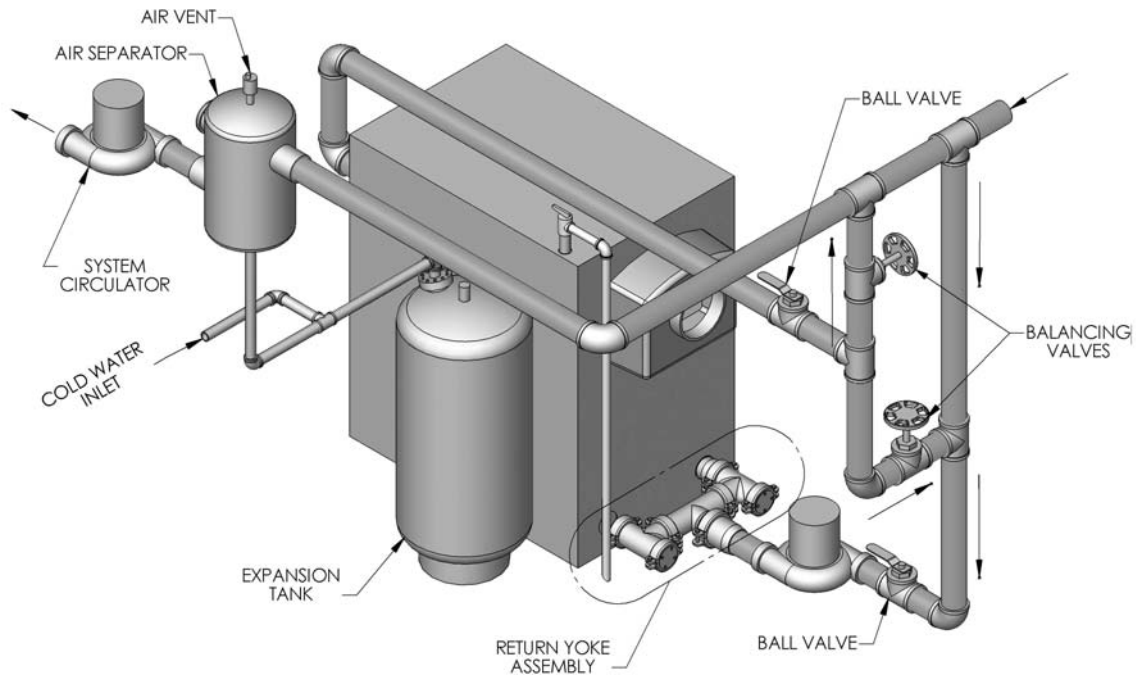

Figure 3.6: Water Boiler Piping
2. Typical piping for a Series TC™ water boiler is shown in Figure 3.6.